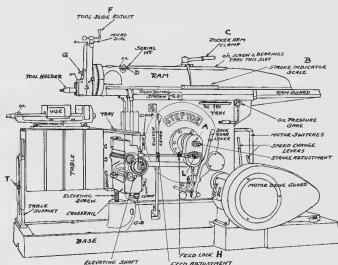

Fig. 1
Loosen knurled knob at A (Fig. 1), place crank on squared shaft, and rotate in either direction until desired ram stroke is indicated on scale B, by pointer attached to clamp handle C. It may be done with machine in motion or at rest. To regulate stroke of ram across vise top, loosen clamp lever at C, place crank on squared shaft at D, and rotate in either direction until desired setting is obtained. Clamp in position with lever C. To test suitability of tool setting, ram may be jogged by operating clutch lever E intermittently.
For manual positioning of table and vise horizontally, first place power feed in neutral as before, and rotate traverse screw by square shaft and crank handle provided. For manual vertical positioning, rotate elevating shaft in desired direction by squared shaft and crank as before. To raise table by power feed, remove pull pinion on traverse screw and place same on elevating shaft, directly below it, and engage feed at K, similarly to horizontal feed. Before operating vertical feed, be sure saddle clamp bolts are loose enough to prevent clamping, also; when so provided, loosen two clamp screws on front of table support at T (Fig. 1).
The Machine is shipped with the feed mechanism adjusted to feed on the return stroke of the ram. Should it be desirable to feed on the forward stroke of the ram, operator should pull out on knob L (Fig. 1), while machine is running, then immediately let it snap back, from
**NOTE** — Always include machine size and serial number, found on top surface of ram adjacent to D, Figure 1, in all inquiries or repair orders.